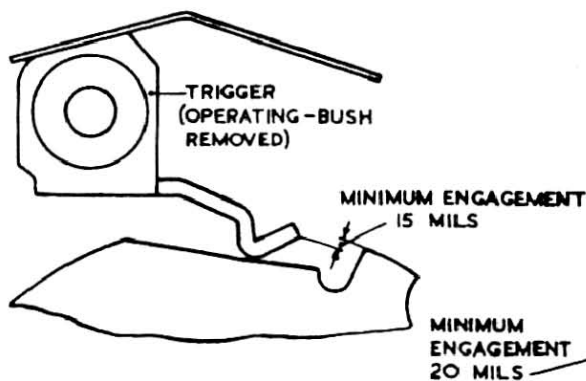

FIG. 13
- .2 When the finger-plate is pulled off-normal, the tip of the impulsing-vee of the trigger should engage the impulse wheel tooth by a minimum of 15 mils, as near as can be judged by eye (see Fig 13).